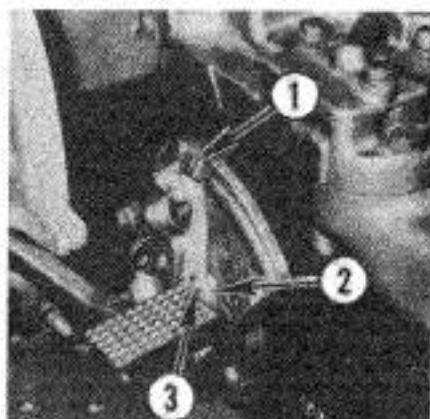

Fig. 190—View of response control side cover with outer cover removed.
**206. RESPONSE CONTROL.** To adjust response control, first remove outer cover from response control side cover. Place response lever (1—Fig. 190) 6.4 mm (1/4 inch) from "SLOW" position, then loosen retaining screw (3). Move inner plate (2) until cam block contacts the "slide" valve lever (located inside housing on pump). Tighten retaining screw to secure the adjustment.